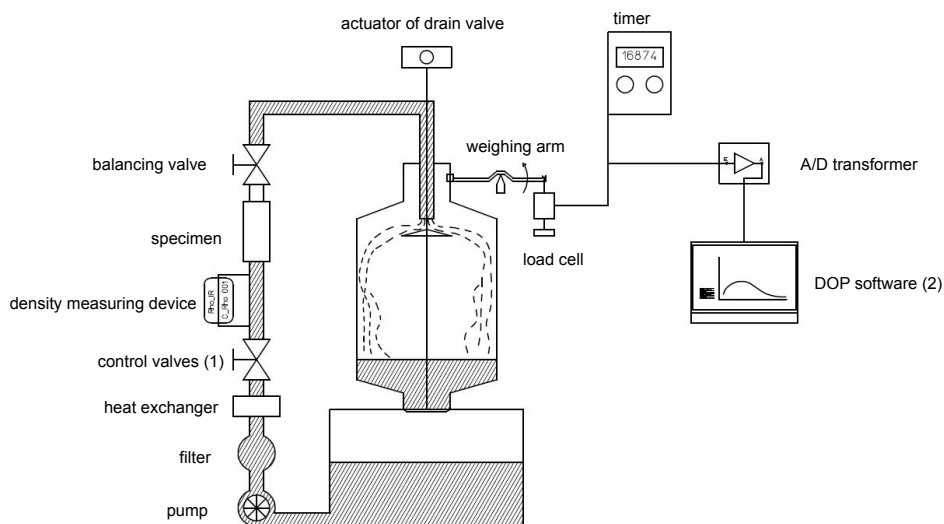

Fig. 8-3: Weighing system – preparing for the weighing process
The control valves (1) are set to the desired flow rate. The duration of calibrating the measuring point is determined by entering weight values in the DOP software (2) (setpoint 0 = tare weight; setpoint 1 = calibration weight) (Fig. 8-3).